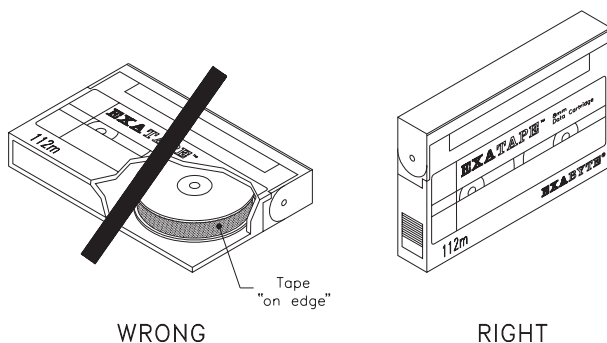

Figure 12 Do not store a data cartridge on its side
- **Store each cartridge on one of its long edges, not flat on its side (see Figure 12).** When a data cartridge is stored on its side, the tape inside the cartridge is actually on its edge. In this position, stress is placed on the tape edges and can lead to tape damage. For the same reason, never stack cartridges on top of each other or lean them at an angle for extended periods of time.